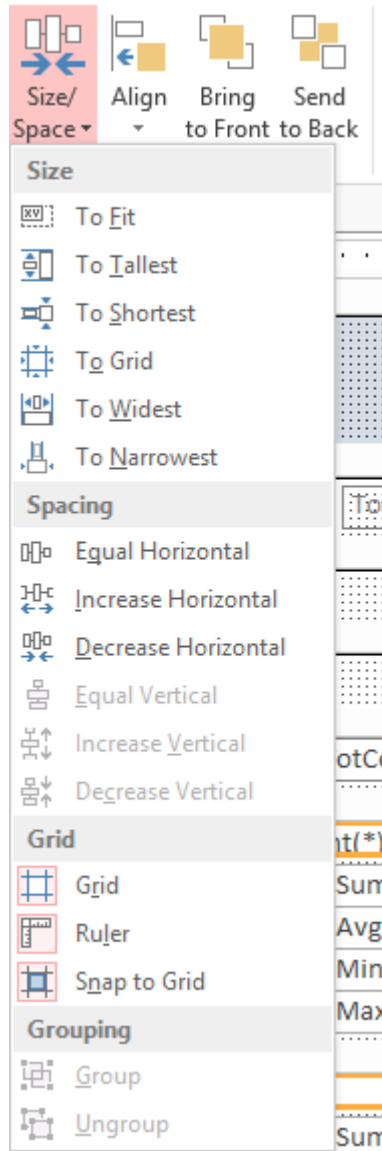

Figure 14: Size/Shape Items in the Arrange Tab of the Ribbon
- To Format the Group Unit: You can change fonts and use bold, italics, or underline with the toolbar. Your changes will affect all of the controls at the same time. You can use the commands in the **Arrange** tab in the Report Design Tools dynamic part on the Ribbon (Figures 14) to align, size, or space controls. The **Align** and **Size/Space** menus are also available by clicking the right mouse button. To obtain a precise fit, you can use the **Arrange** → **Size/Space** → **To Fit** command. The control will automatically adjust to the size of its data if you use this formatting feature.